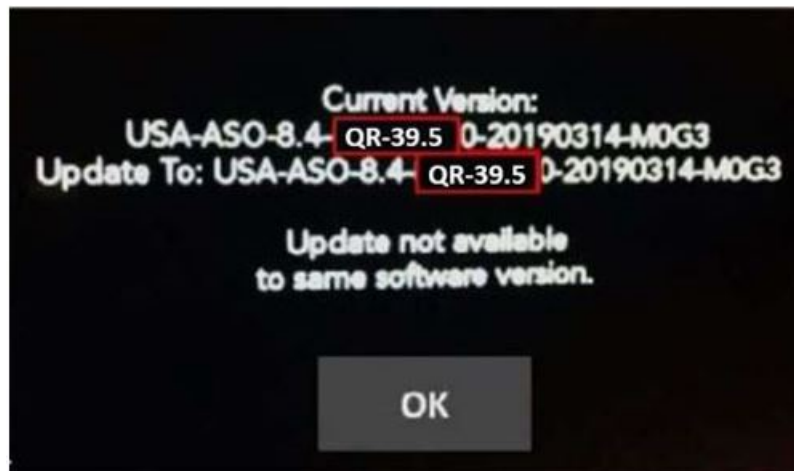

Fig. 10
16. After the update has completed, the radio will shut down. With the USB flash drive still inserted in the USB port, cycle the ignition back to the run position. If the radio software was updated correctly the "Current Version:" and the "Update To:" software levels in (Fig. 10) will display the identical software level. Press "OK" and remove the USB flash drive.